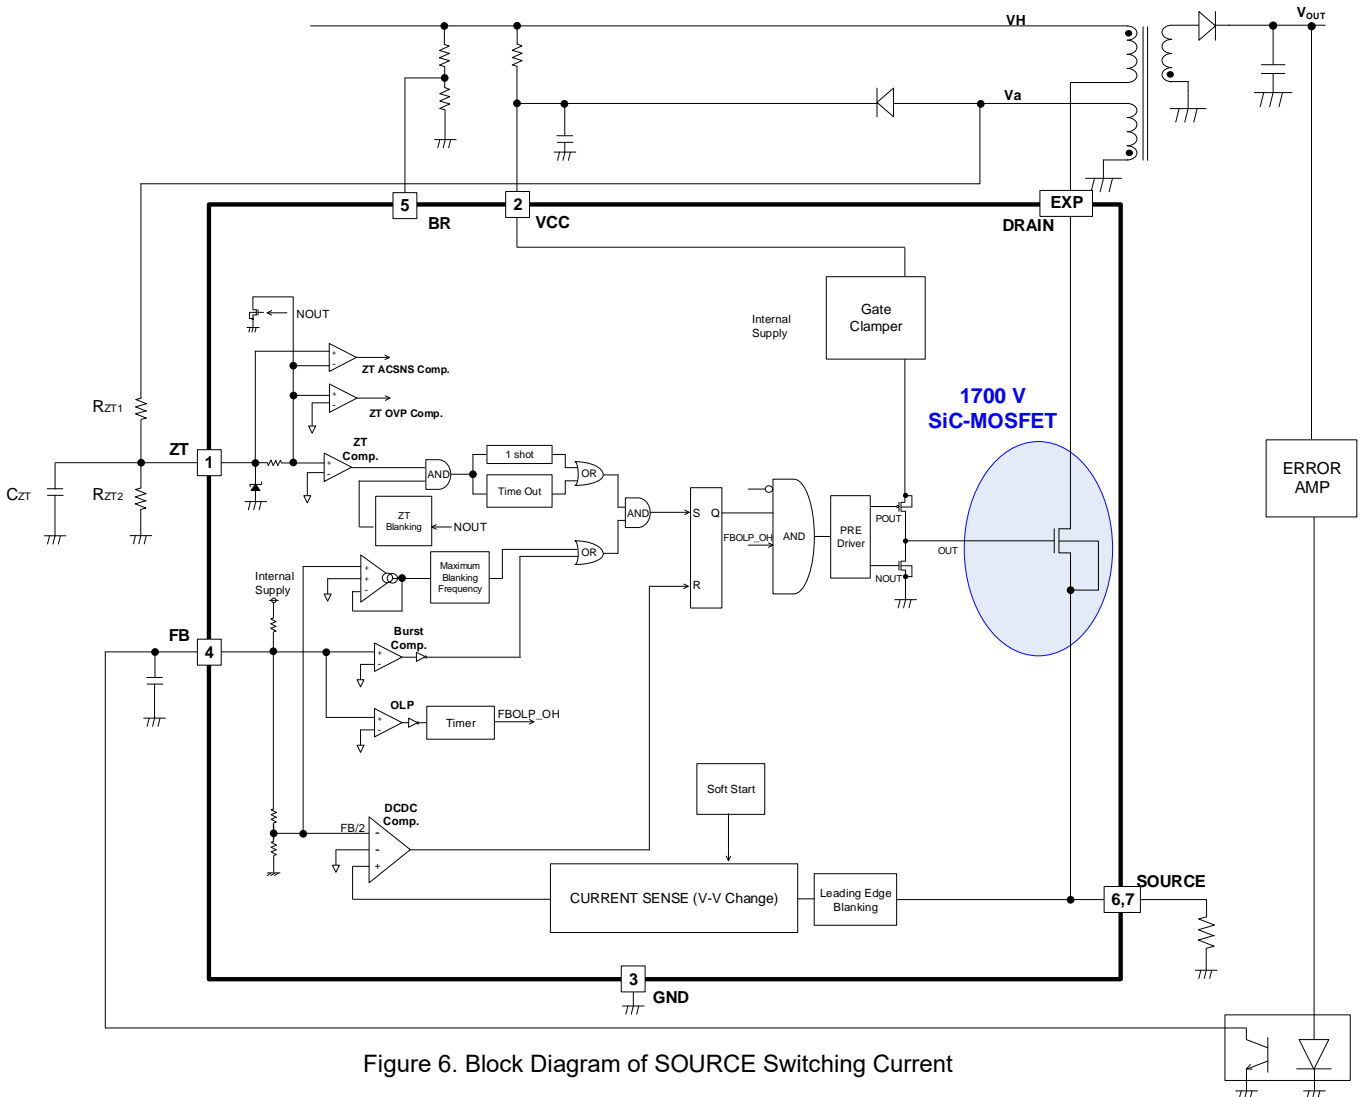
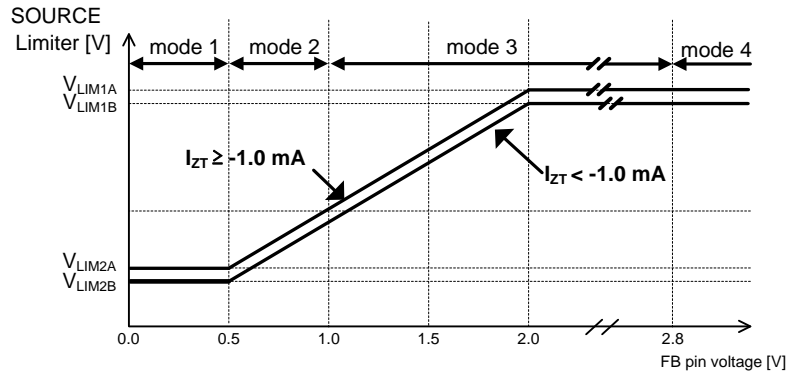
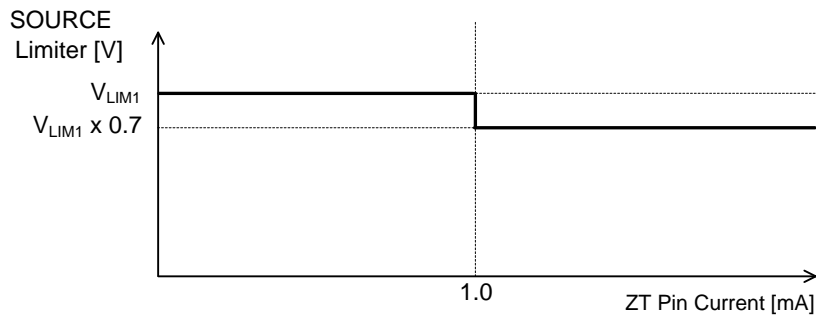
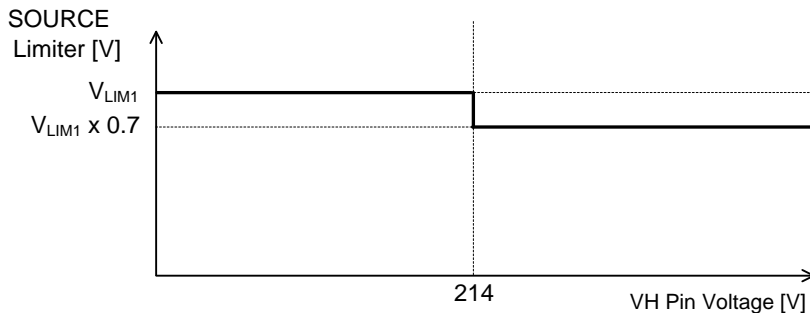

Figure 6. Block Diagram of SOURCE Switching Current
Figure 7. SOURCE Switching: SOURCE Limiter vs FB Pin Voltage
Figure 8. SOURCE Switching: SOURCE Limiter vs ZT Pin Current
Figure 9. Example of SOURCE Switching: SOURCE Limiter vs VH Pin Voltage
Detection and switch are performed by monitoring the ZT inflow current. When the MOSFET is turned ON, Va becomes a negative voltage dependent on the input voltage (VH). The ZT pin is clamped to nearly 0 V in the IC. The formula used to calculate this is shown below. A block diagram is shown in Figure 6. Also, graphs are shown in Figure 7, Figure 8 and Figure 9.